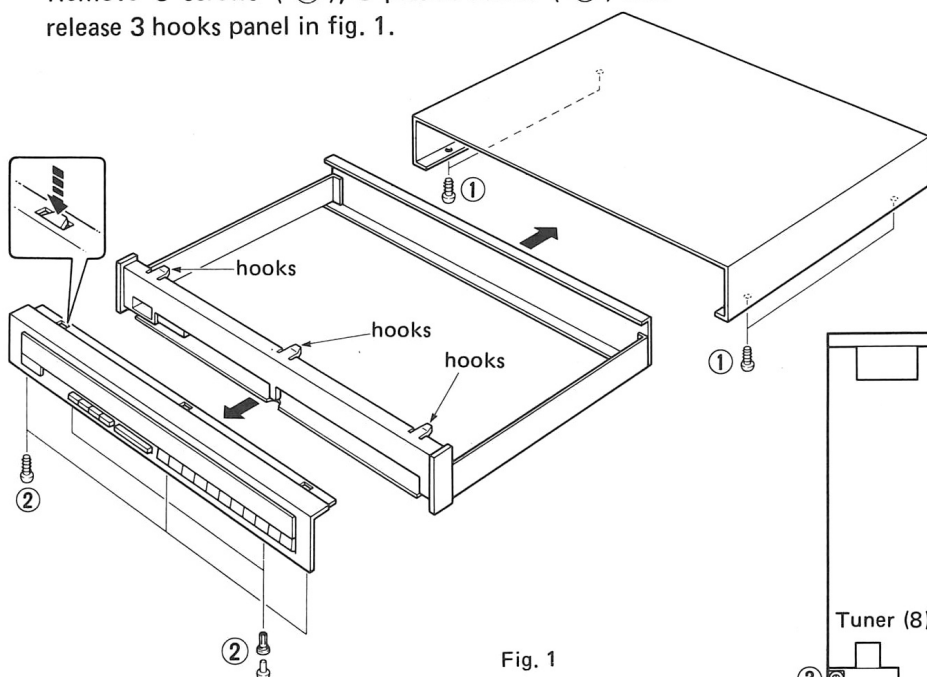

Fig. 1
Remove 4 screws (①) in fig. 1.
Remove 3 screws (②), 3 plastic revets (②) and release 3 hooks panel in fig. 1.